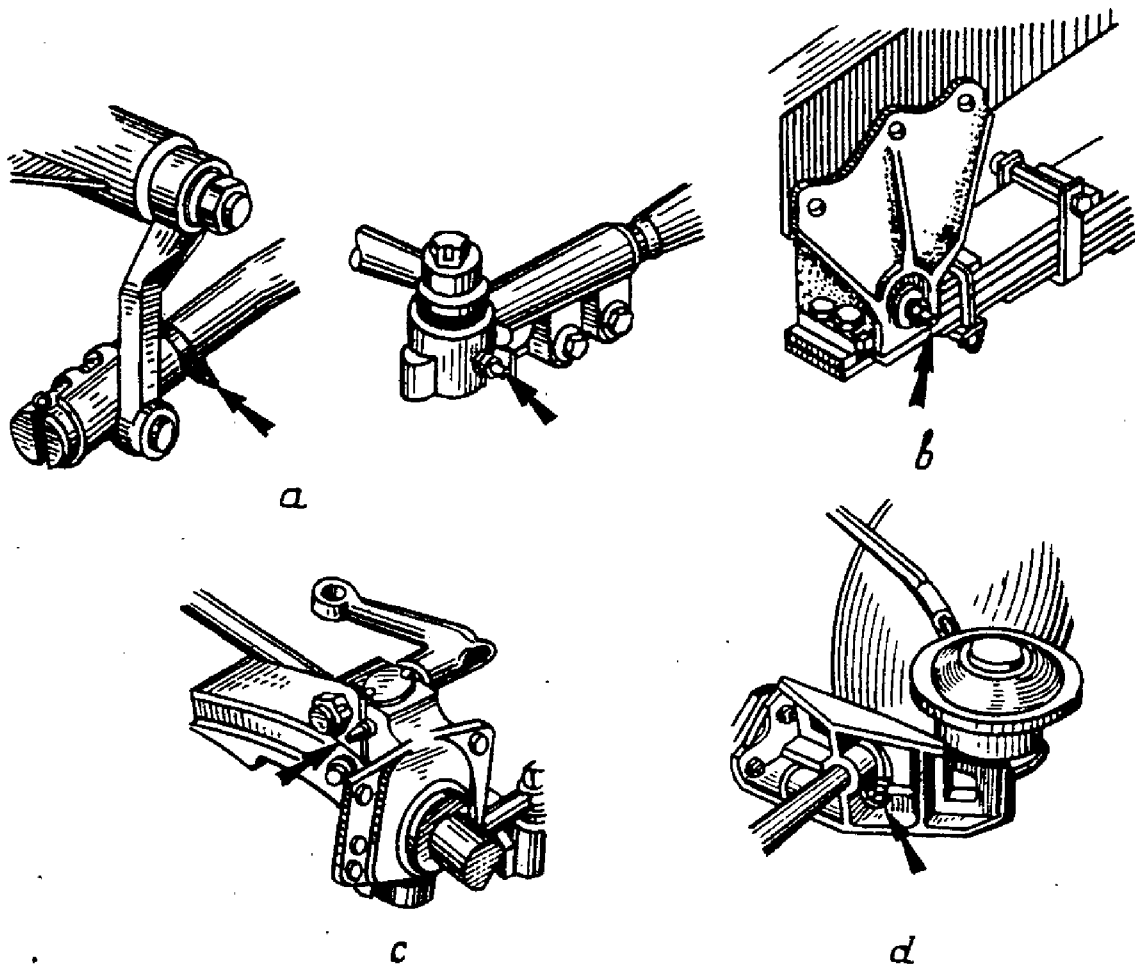

FIG.17. LUBRICATING POINTS FOR VC-1 GREASE (PRESS SOLID OIL),
47. Using YC-1 grease (press-solid oil), GOST 1033-51, press solid "C" oil or solid oil "C", GOST 4366-64 (Fig.17), lubricate the following parts: